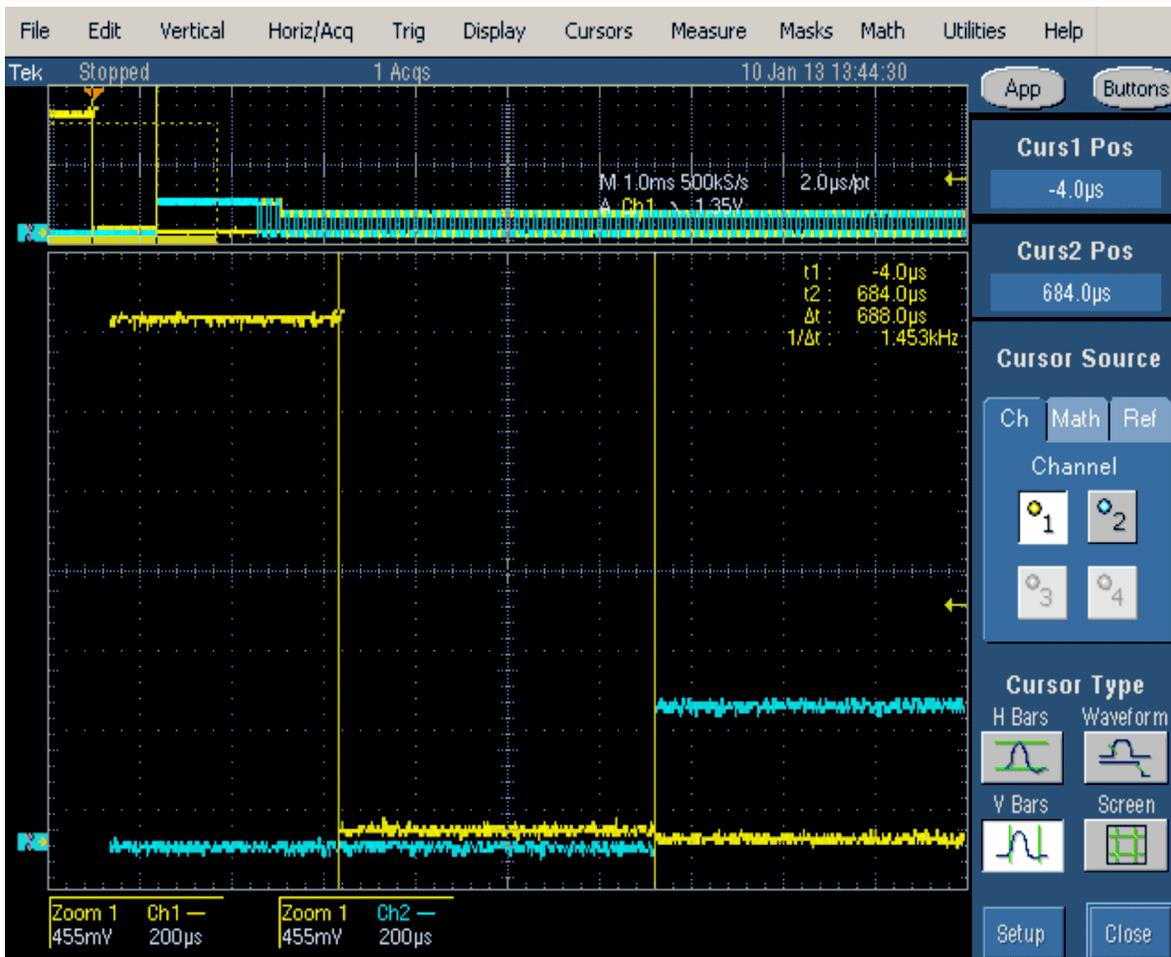

Figure 6. Chirp Test Result
12. Click Enumerate Bus and capture the CHIRP handshake as in Figure 6. The results can be viewed on the results panel. Note: Instead of enumerating the device, an alternative method to generate the chirp signal is to disconnect and reconnect the unit under test (device) to the port.